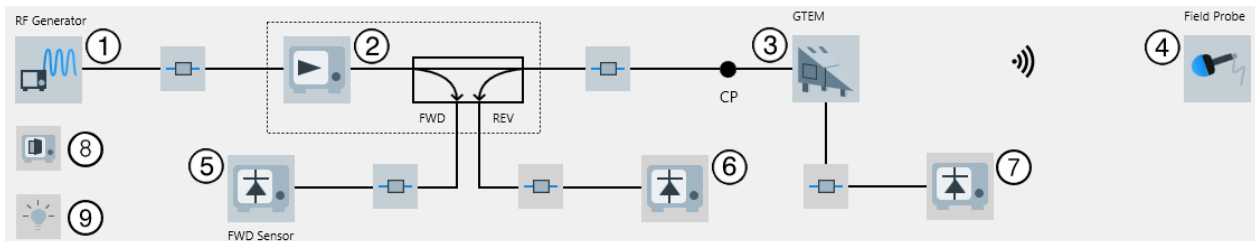

Figure 4-154: EMS hardware setup diagram (radiated) for a TEM Waveguide in Calibration View
- The "Calibration View" (see Figure 4-154)